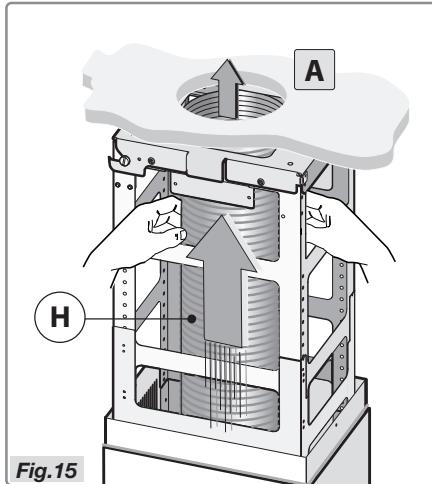

Fig.15
- Connect the pipe **H** (not supplied) to the air outlet opening **A** (Fig.15).